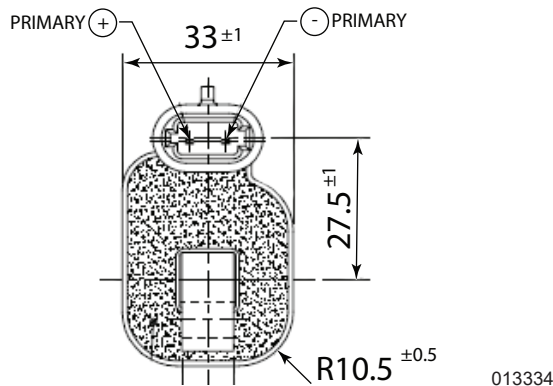

Figure 7-5. Ignition Coil
- See Figure 7-5. Measure resistance across coil. Resistance on primary side should read 1 ohms $\pm$ 15%.